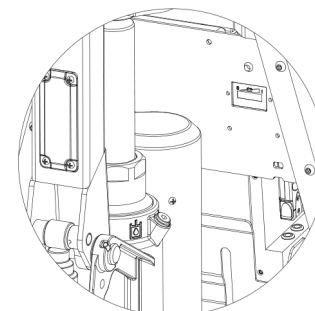

Fig. 21
3. After filling the appropriate amount of hydraulic oil, lift and lower the handle two to three times, then lift the fork to max. height and tighten the screw. Replace the washer if its damaged. (Fig. 21)